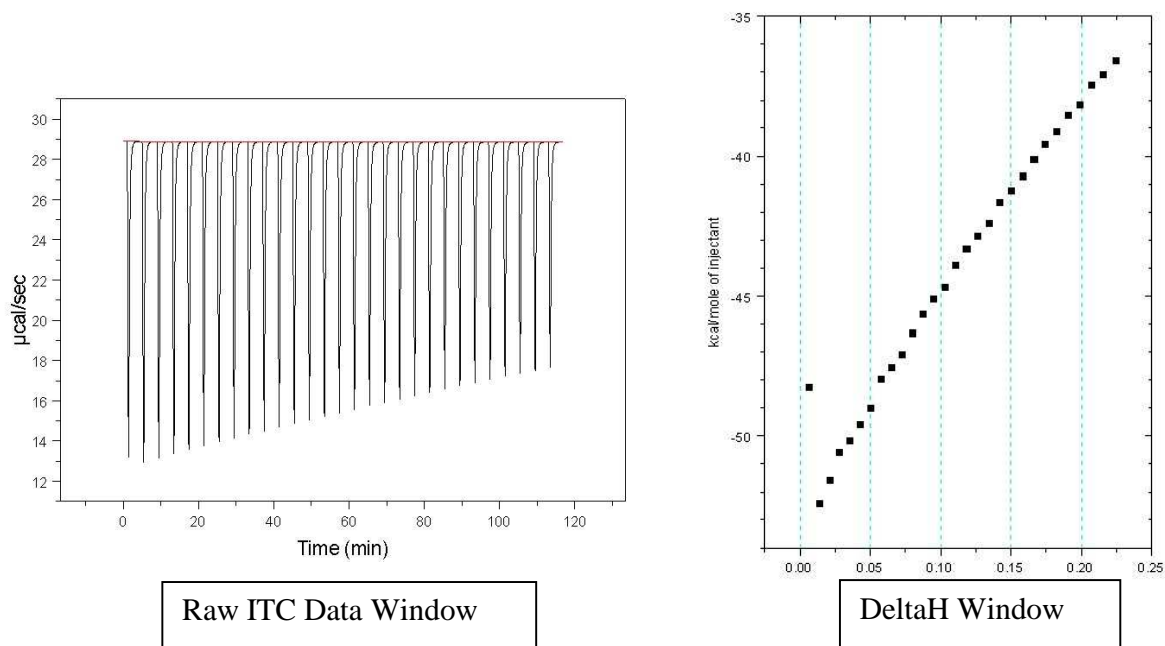

Figure 4. A typical thermogram for a simple titration (left). An exothermic reaction is illustrated.
A typical titration curve obtained for a thermometric titration is shown in Figure 4 (left). In our experiment, 2-naphthalene sulfonate ion is the guest and is added as the titrant. Cyclodextrin is the host and starts in the reaction vessel. Water is used for the reference cell. The titration is done in discrete steps. A small volume of titrant is added and then system transfers heat to or from the sample cell until the temperature of the sample and reference cell are equalized. The integral of the DP signal then equals the total heat transferred in this step. Then the process is repeated with a second addition of titrant, and so on until the titration is complete. After the titration is complete, the system will automatically plot the raw data, generate a baseline for the raw data, integrate all peaks, and display the integration results in the Delta H window. As the titration proceeds, the titrant that is added increases the total volume of the solution, which pushes some of the solution up into the stem of the reaction vessel. Once the solution is pushed into the stem any unreacted host will no longer be available for reaction with the guest. This dilution effect is calculated and the Delta H is calculated using these changes. The effects of dilution and exclusion of solution from the sample cell are small in this experiment. Please see the Microcal documentation for a careful treatment of these effects. For our calculations, we will ignore these effects. Therefore, this Delta H plot can be treated as though no dilution occurs for the host in the sample cell. In other words, we approximate the total volume of the solution as constant and as equal to the cell volume, V_{cell} . The total concentration of the host, $[H]_t$, is therefore also assumed to be constant.
- Select **Auto View 2** and you should see a plot similar to Figure 4. You may also want to get an even closer look at the baseline.